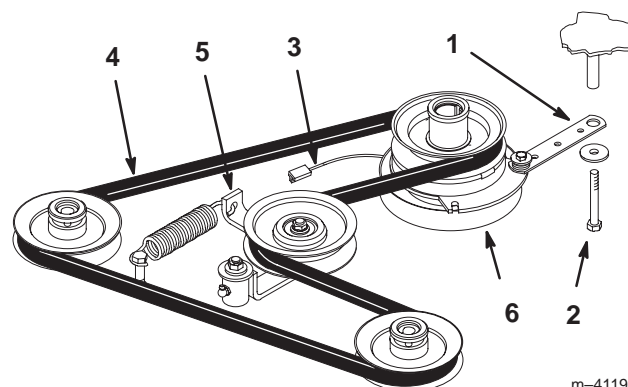

Figure 63
2. Remove bolt from clutch strap and unplug clutch electrical wire (Fig. 63).
3. Pull spring loaded idler to side. Remove traction belt from the engine and hydro pump pulleys (Fig. 63).
4. Install new belt around engine and hydro pump pulleys (Fig. 63).
5. Pull spring loaded idler to side and align belt. Release pressure on spring loaded idler (Fig. 63).